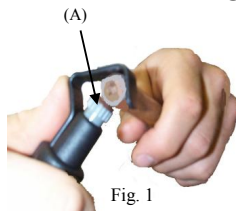

Fig. 1
**Step 1.** (Fig. 1) Adjust the cutting depth of the blade to the insulation thickness by rotating the knurled head (A).